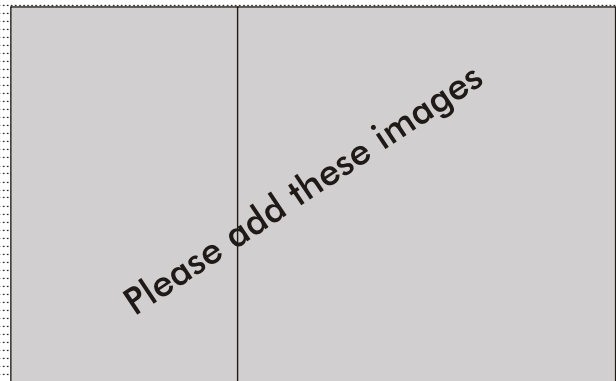

Fig. 1.17
- To install oil seal in gear shift shaft. (Fig 1.17)